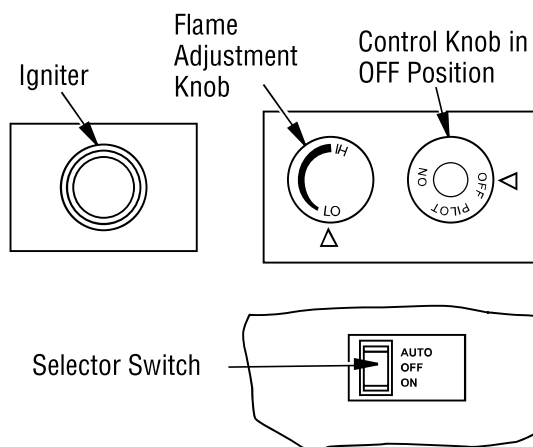

Figure 39 - Control Knob, Igniter Button and AUTO/OFF/ON Switch
4. Press in and turn control knob clockwise  to the OFF position (see **Figure 39**).